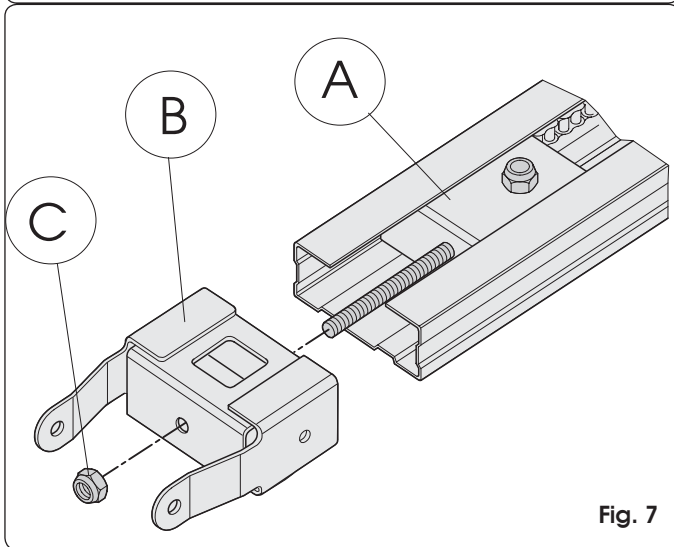

Fig. 7
- 2) Slide the transmission unit (Fig.7 ref. A) along the whole sliding guide, until it is near the front terminal, the one opposite the drive coupling.
- 3) Assemble the front fitting (Fig. 7 ref. B) to the transmission unit (Fig. 7 ref. A).
- 4) Apply slight tension to the chain, tightening the nut (Fig. 7 ref. C.).